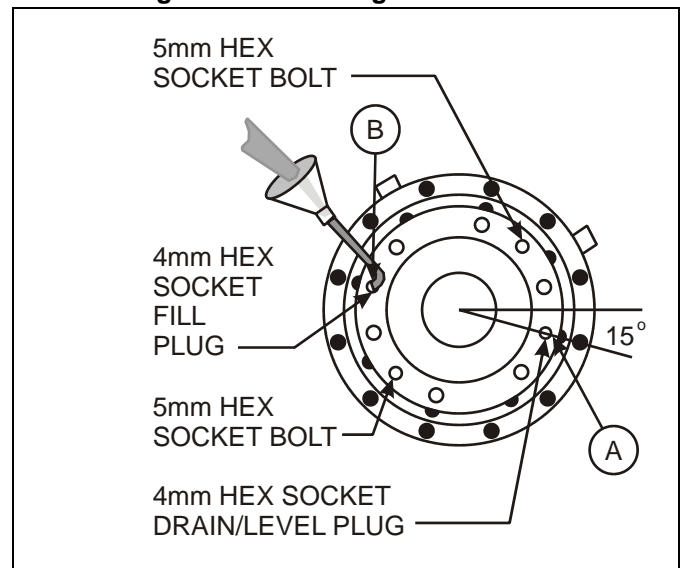

Figure 2-9 Refilling the Gear Box
13. To fill the gear box, turn until the drain/level hole in position A is about 15° below the horizontal center line of the gear box. (See Figure 2-9)